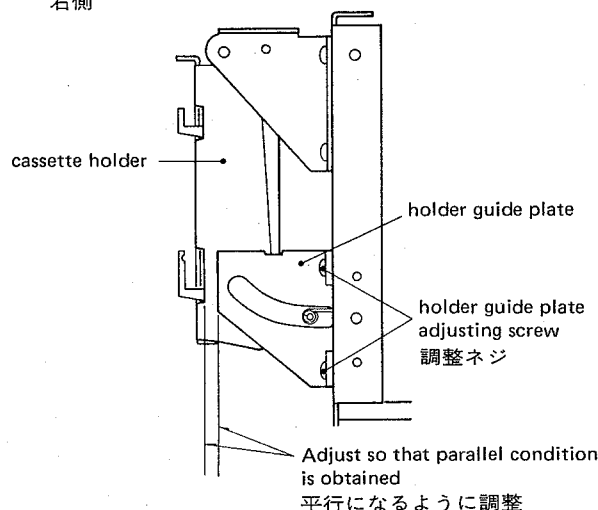

Fig. 4-2
1. Adjust the position of holder guide plate so that it is parallel with the cassette holder as shown in Fig. 4-2 when a cassette tape (MTT-551, etc.) is loaded.